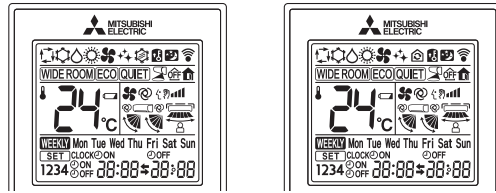

Figure 1
- ① While pressing both Operation select button and TEMP \oplus button on the remote controller at the same time, press RESET button.
- ② First, release RESET button. Hold down the other 2 buttons for another 3 seconds. Make sure that the indicators on the LCD screen shown in the right figure are all displayed. Then release the buttons. **(Figure 1)**